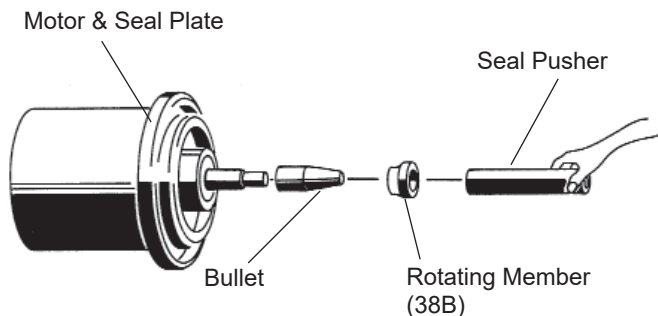

**FIGURE 6**
**Bearing** - When replacing bearing, be careful not to damage the rotor or shaft threads. Clean the shaft thoroughly. Slide conduit bushing (30) and washer (28) over motor shaft. Insert retaining ring (29) into groove on shaft. Apply adhesive compound to the shaft and press bearing (39) on the motor shaft, position squarely onto shaft applying force to the inner race of the bearing only, until bearing seats against retaining ring (29).
**Seal** - Clean and oil seal cavity in seal plate (24). Press stationary member (38a) firmly into seal plate (24), using a seal pusher, nothing but the seal pusher is to come in contact with seal face (See Figure 6). Make sure the stationary member is in straight.